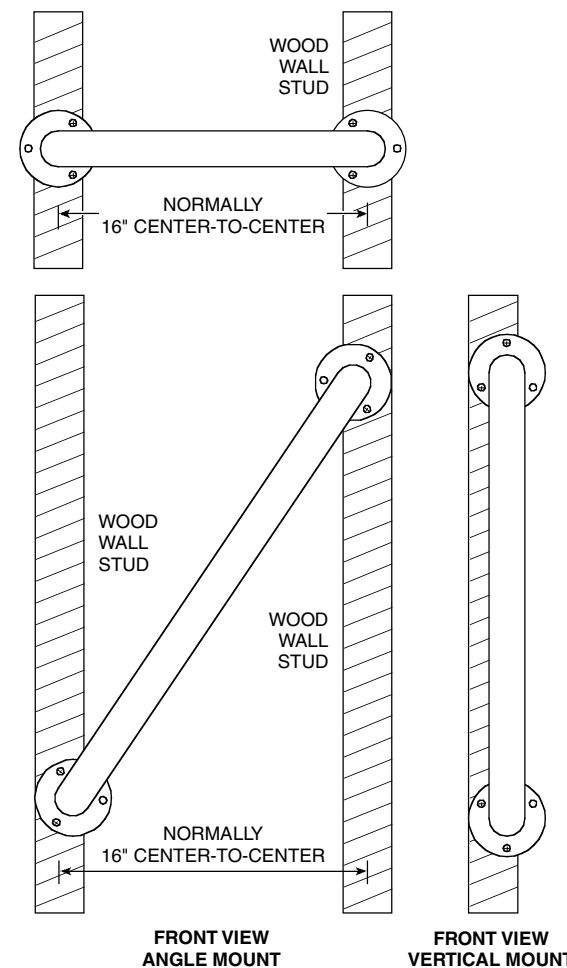

Figure 2
⚠ WARNING GRAB BAR MAY NOT PROVIDE DESIGNED AMOUNT OF SUPPORT UNLESS THESE INSTALLATION INSTRUCTIONS ARE STRICTLY FOLLOWED. For proper installation, both ends of Grab Bar MUST be positioned over a wall stud. For solid support, at least two (2) of the three (3) screws on the end of the Grab Bar MUST go through the wallboard or tile and be tightly secured into the wall stud. Given standard stud sizes, only two (2) of the three (3) screws may screw into the wall stud. Grab Bar may be installed vertically, horizontally or at an angle, so long as at least two (2) of the three (3) mounting screws on both ends of the Grab Bar are secured into a wall stud (see Figure 2). Locate the wall studs behind the wall before beginning installation (a stud finder can be obtained from a hardware store).	⚠ WARNING THE FOLLOWING STEPS REQUIRE DRILLING INTO THE WALL. When drilling into the wall, exercise care to avoid any electrical wiring or plumbing that may be located behind the wall. Damaged electrical wiring can cause electrical shock and/or fire. Since older homes do not always fall in line with current housing codes and requirements, know where internal wall wiring is located so that no wires will interfere with your installation. PROPER INSTALLATION IS EXTREMELY IMPORTANT. IF IN DOUBT, INSTALLATION SHOULD BE DONE BY A QUALIFIED PROFESSIONAL.